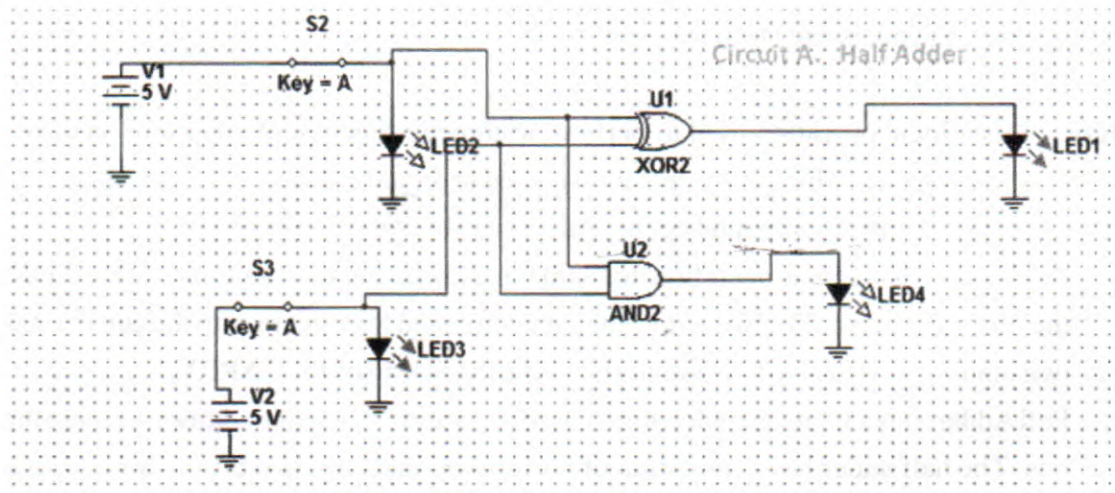

Figure 2.1: Demonstration of Half Adder operation
1. Connect the circuit diagrams of Figures 2.1 to 2.5.
4. Based on the input and output of the logic gate combination in Figures 2.1 – 2.5, represent the combinations with a truth table for Half-adder, Full adder, half-subtractor and full-Subtractor.